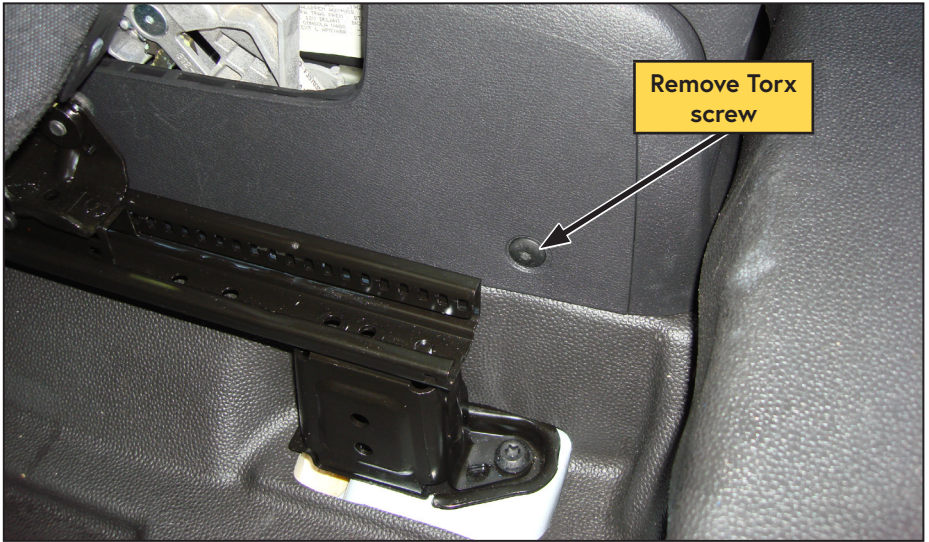

Figure 5 — Remove centre console
- Move both of the seats forward and remove the (x4) Torx screws located at the front and rear of the console beside both the driver and passenger seats (Figure 5).